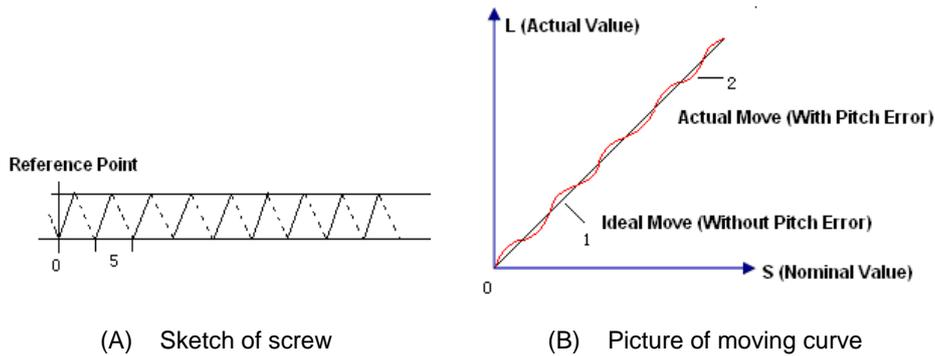

Fig. 3-66 Analysis of pitch error
Pitch error is caused by screw defect and long-term wear, etc. In order to improve precision, pitch compensation is needed to meet the requirement. The sketch of a screw is shown in Fig. 3-66 (A). A coordinate system is established, based on “0” point on the screw as the reference point, nominal value as X-coordinate, and actual value as Y-coordinate. Then the ideal moving curve is as curve “1” in Fig. 3-66 (B), however, the actual curve will be curve “2” due to pitch error. That is to say, the Actual value is not the same as its corresponding Nominal value, the actual moving curve deviating from the ideal one, and their difference is called error, i.e.: